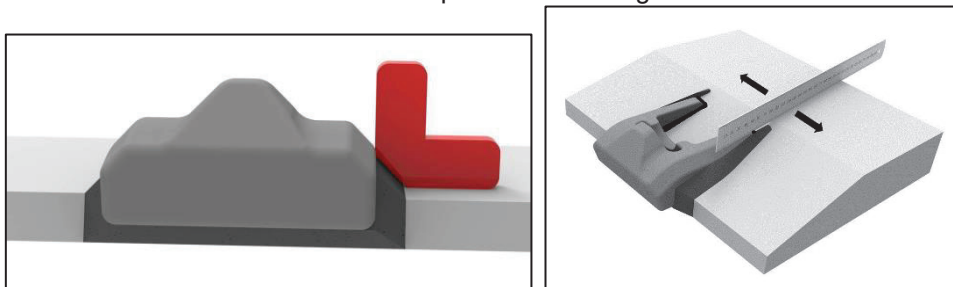

Figure 30 Excerpts from PGP0051
2.15.6. Inspect all boss fillet welds by following Gauging Procedure PGP0051. Rectify all over or under welds and smooth transitions between weld passes. Refer Figure 30.